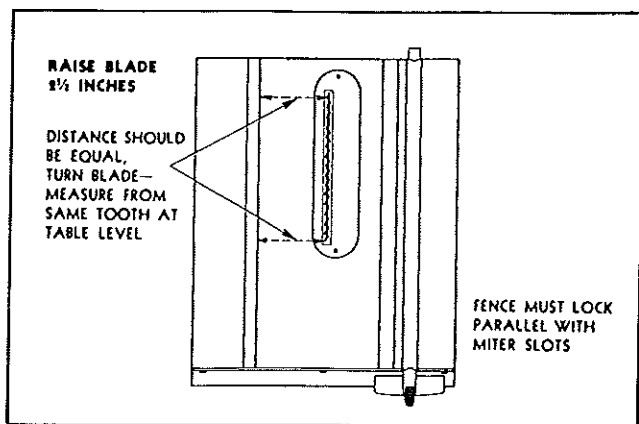

FIGURE 4
Install in opening provided in table top. See Fig. 4.
**The Blade Must Be Parallel with the Miter Slots in the Table to Get a Straight Cut.** (See Fig. 4).
2. Measure accurately from a raker tooth on the blade to an edge of either miter slot, as explained and shown in Fig. 4.